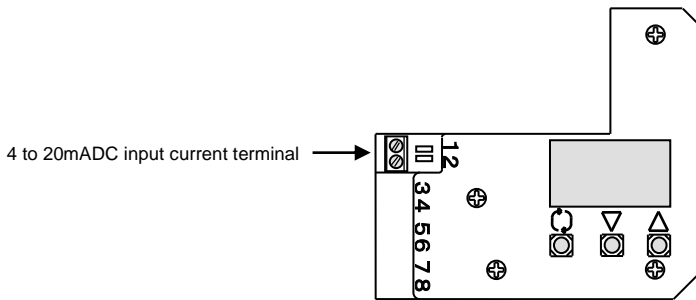

Fig. 9
- (1) Remove the positioner body cover.
- (2) Connect the input current wiring from an adjusting meter (controller) following Fig. 9\*1.